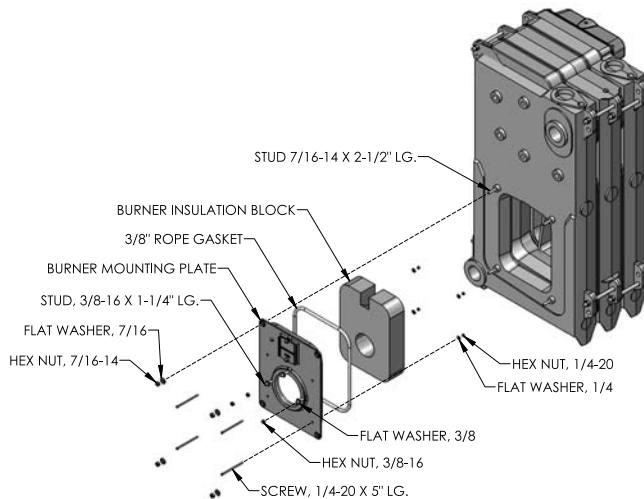

Figure 2.6: Burner Mounting Plate Installation
4. Install the 7/16" x 2-1/2" Studs provided into the four threaded holes around the perimeter of the burner opening in the Boiler Front Section as shown in Figure 2.6.